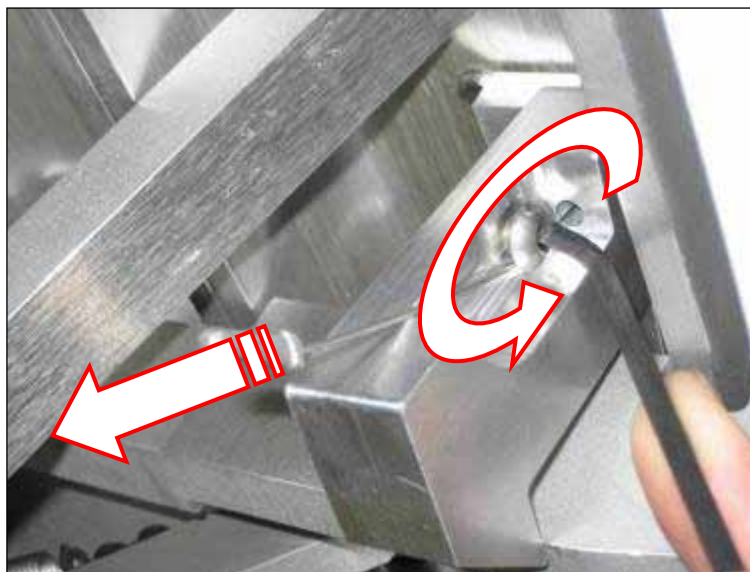

Figure 54
1. Dock the table, close the bridge and advance the patient support roughly 6" - 8" (152.4mm to 203.2mm) into the scanner. While the patient support is advanced and the no-undock hook is in the down position against its travel stop, pull the cable firmly downward and tighten the round head screw with a 5/32" Allen key so the cable can slip behind the screw head if the cable is pulled with moderate force. (Figure 54).